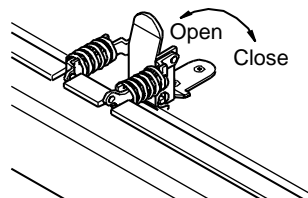

Figure 41 - Opening Door Latches
3. To open the glass door, open the pairs of latches located on the top and bottom of the firebox (see Figure 41). *Note:* Use caution when opening these latches.